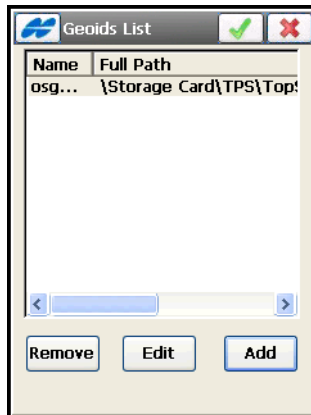

Figure 4-92. Geoid List
1. On the **Geoid List** screen, which is initially empty, press the **Add** button (Figure 4-92).
3. Press the ok  button to return to the **Geoid List** screen (Figure 4-92 on page 4-72) with the geoid file added. This list corresponds to the Geoids drop-down list in the **Coord System** screen.